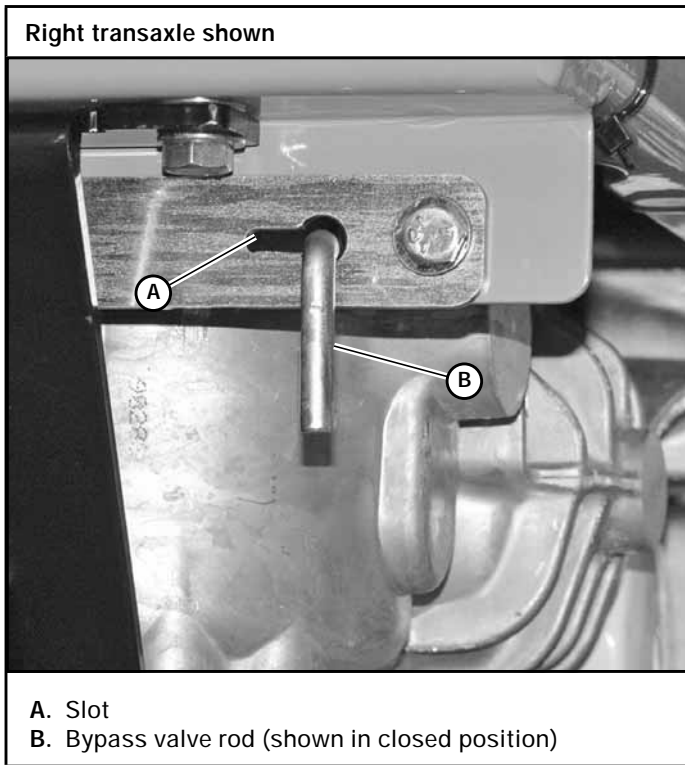

Figure 4-11
3. With the bypass valve open and the engine running, slowly move the H-Bar® steering lever in both forward and reverse directions (5 or 6 times). Figure 4-11